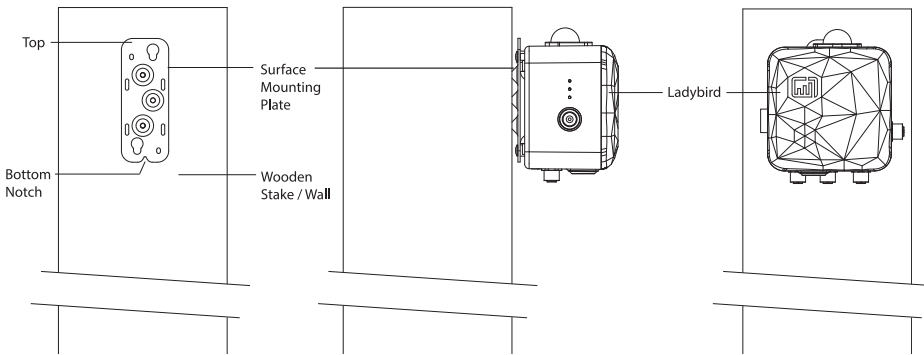

Figure 2: Surface Mounting
- Fix the plate to a stake or wall using three M4 screws or zip ties, then hang the device on the plate as shown in Fig. 2.